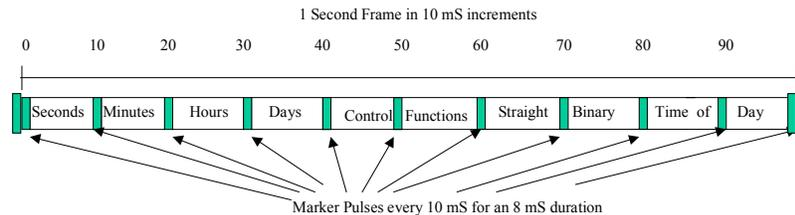

Figure 4-10. IRIG B Frame Construction
position identifier appears during the ninetieth millisecond of each one hundred millisecond period mark. The 30 bit Binary Coded Decimal time data occurs in the first one hundred millisecond of each 1 second frame. Optional control functions are sometimes encoded in the data stream. These functions control deletion commands and allow different data groupings within the synchronization strings. Decoding an IRIG B pulse is quite a complex undertaking. A typical 1 second time frame is illustrated in Figure 4-10. It is interesting to note that the year is not included within the IRIG B frame. If the Control Function frame (CF) or Straight Binary Time of Day frame (SBT) is not used, the bits defined within those fields are to be set as a string of zeroes and sent to the IED IRIG B receiver.